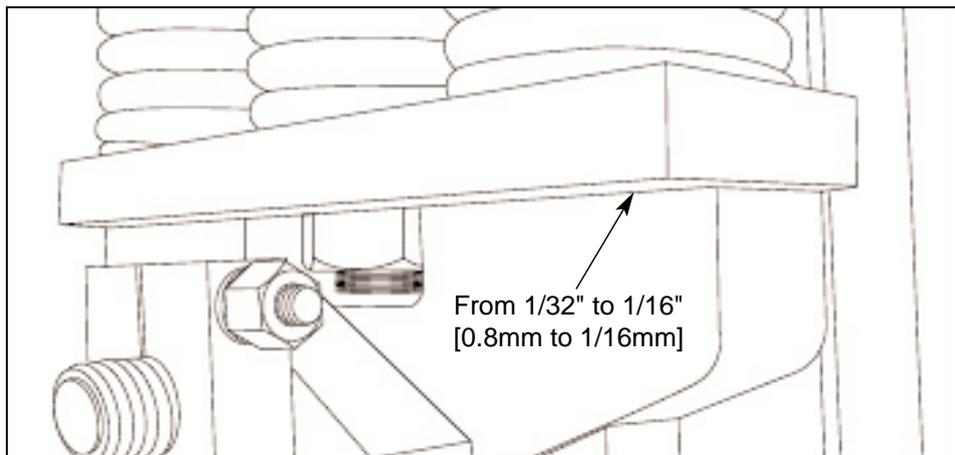

Figure 5.37 SPRING OPENING.
5.9.2 The spring opening should be between 1/32" [0.8mm] and 1/16" [1.6mm] maximum (see figure 5.37). This is all that is required to make most units on an ULTRAPAC II.